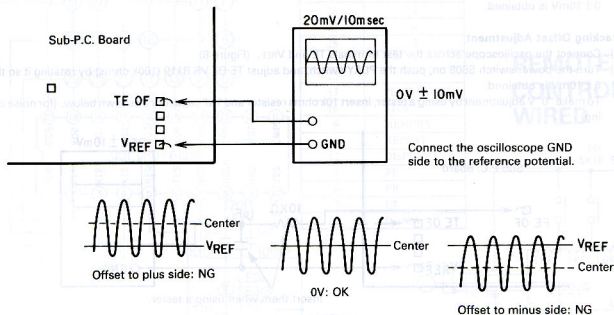

Figure 6
- (3) Connect the oscilloscope across the test terminals TE OF and VREF. (Figure 6)
- (4) Turn the power switch S608 on, play back the test disc YEDS-7, and search the 1st track on the disc.
- (5) Adjust TE BAL VR R107 (100k ohms) so that the waveform center on the oscilloscope becomes $0V \pm 10mV$.